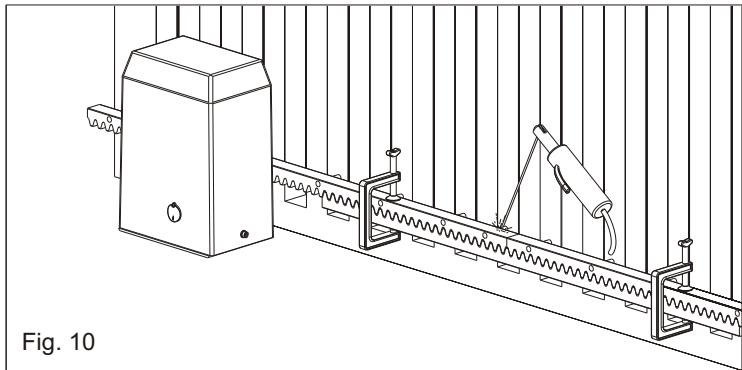

Fig. 10
5.5. Check all the rack pieces are perfectly alined and placed correctly (serrations in phases). When fitting the next section of rack use a third piece as shown in Fig. 10 to ensure a good mesh.